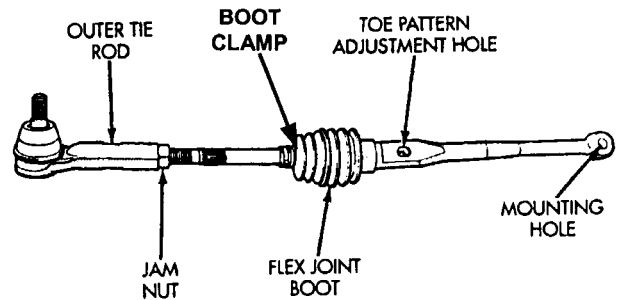

Figure 26 – Left Rear Shown
d. Remove the clamp from the rear flex joint boot and loosen the tie rod jam nut (Figure 26).
i. Straighten both rear flex joint boots so that the boots are not twisted (Figure 26). Then install both boot clamps.